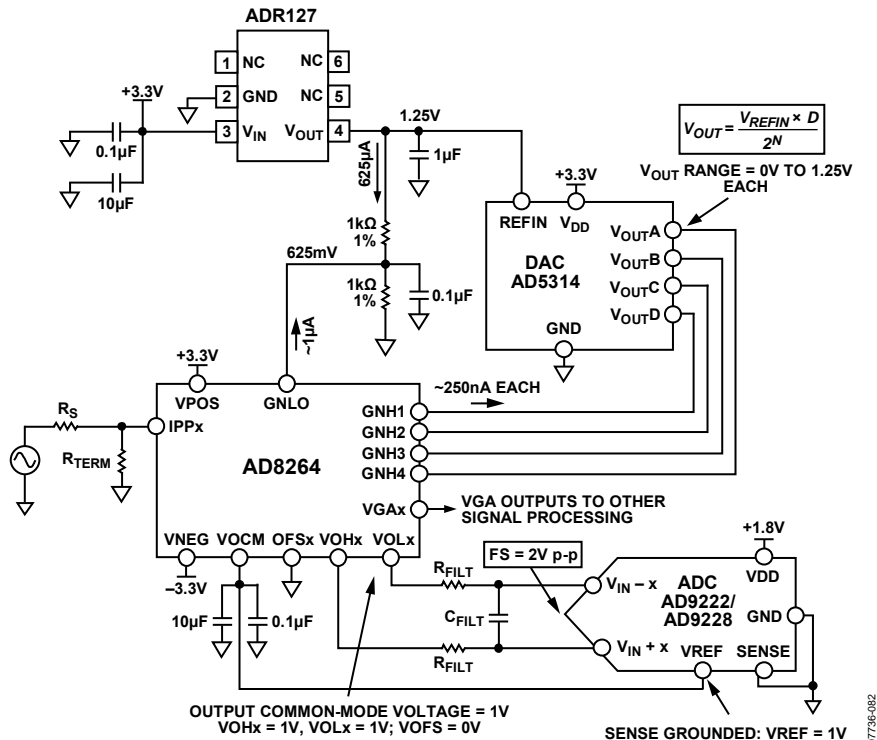
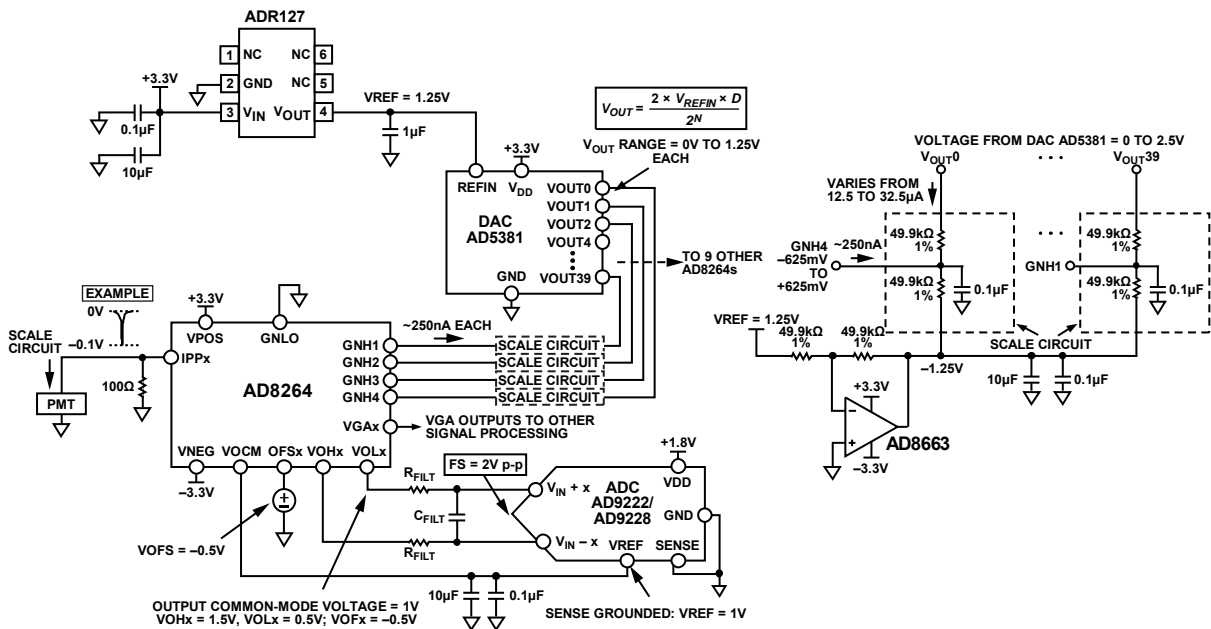

Figure 112. Application Concept of the AD8264 with the AD5314 10-Bit DAC and the AD9222/AD9228 12-Bit ADC
Figure 113. Concept Application of AD8264 with 40-Channel AD5381 12-Bit, 3 V DAC and AD9222/AD9228 12-Bit ADC
The AD8264 is particularly well suited for use in the analog front end of medical PET imaging systems. Figure 112 shows how to use the AD8264 with the AD5314 (a 4-channel, 10-bit DAC) and the AD9222/AD9228 (an octal or quad, 12-bit ADC, respectively). The DAC sets the gain of the AD8264. Note that the full gain span of 24 dB is achieved with this setup because the gain control input range of the AD8264 is very close to 1.25 V. The GNLO pin must offset by $1.25/2 = 625$ mV because the gain control input is bipolar around the voltage applied at GNLO. This is done with two 1 k Ω , 1% resistors. The approximately 1 μ A of bias current flowing from the GNLO pin does not contribute a significant error because the basic gain error of the AD8264 is the limiting factor.
Figure 112 also includes the DAC output equation, which indicates that the output can vary between 0 V and $V_{REF} = 1.25$ V.
The single-ended-to-differential amplifier of the AD8264 amplifies the V_{GA} output signal by 6 dB and can provide the required dc bias of the AD9222/AD9228, as shown in Figure 112. The ADC is connected with the default internal reference because the SENSE pin is grounded. With this connection, the AD9222/AD9228 V_{REF} pin is an output that provides 1 V; this is then connected to the VO_{CM} input of the AD8264, which sets the output common-mode voltage of the VO_{Hx} and VO_{Lx} pins to 1 V. This voltage is very close to the recommended optimal value of $V_{DD}/2 = 0.9$ V. With this configuration, the ADC inputs are set to a full-scale (FS) of 2 V p-p.
The dc connected concept example in Figure 113 is an application with the 40-channel AD5381, 3 V, 12-bit DAC. The main difference between this example and Figure 112 is that, for the same ADR127 1.25 V reference, the full-scale output of the DAC is from 0 V to $2 \times V_{REFIN} = 2.5$ V. Two options for gain control include the following:
- Use the same circuit as in Figure 112 but use only half the DAC output voltage from 0 V to 1.25 V. This is the simplest solution, requiring the fewest extra components. Note that the overall gain resolution increases by one bit to 11 bits over the 10-bit AD5314.
- Ground GNLO and scale the DAC output so that the GNHx inputs vary from -0.652 V to $+0.625$ V. Figure 113 shows a possible circuit implementation using a divider between the DAC output and a -1.25 V reference.
Figure 113 shows how the AD8264 is connected in a PET application. The PMT generates a negative-going current pulse that results in a voltage pulse at the preamplifier input and a differential output pulse on VOLx and VOHx.
A convenient method of verifying and customizing the signal chains shown in Figure 112 and Figure 113 is by ordering the corresponding evaluation boards available on www.analog.com. The AD8264-EVALZ is a platform through which the user can quickly become familiar with the features and performance capabilities of the AD8264. See the Evaluation Board section for more information.